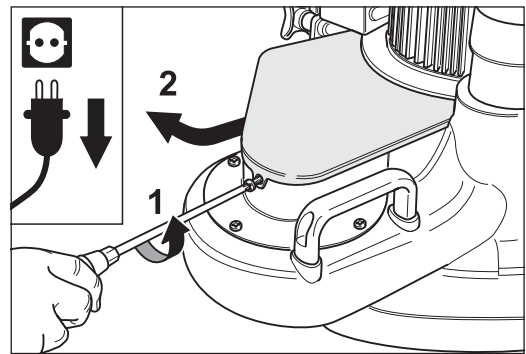

Fig. 91 Remove the V-belt guard fixing screw (1) and remove the V-belt guard (2).
- 8 Remove the screw which fixes the V-belt guard to the fan insert (fig. 91, 1).
- 9 Pull V-belt guard from its slot at the motor and put it aside (fig. 91, 2).